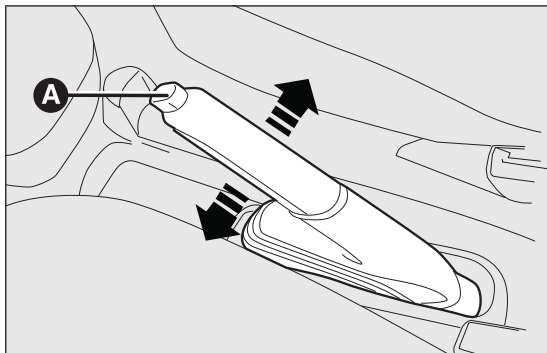

fig. 124
The handbrake lever fig. 124 is located between the two front seats.
- ☐ slightly lift the handbrake and press release button A fig. 124;